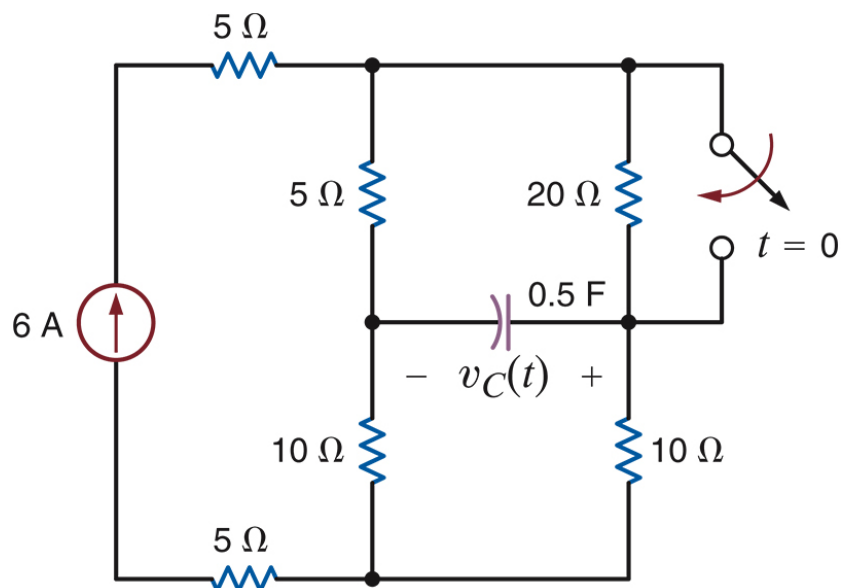

Figure 14: Circuit for Exercise 4
4) The switch in Figure 14 has been opened for a long time and is closed at $t = 0$. Calculate $v_C(t)$ for $t > 0$. Plot $v_C(t)$ versus time using MATLAB and include the plot in your report. Now simulate this circuit using MultiSim and plot $v_C(t)$ versus time. Include this plot in your report as well.